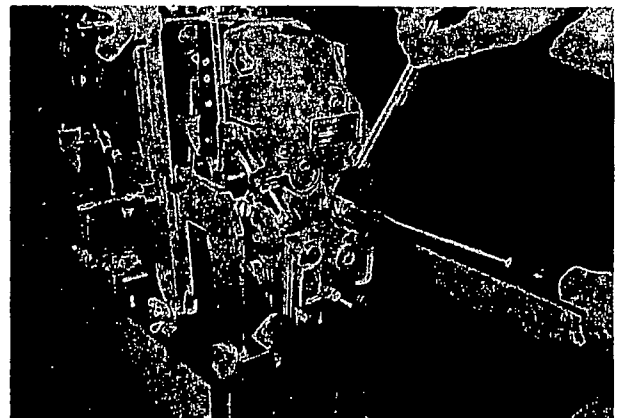

Fig. 4-67 Adjustment of idling speed control
- (2) Drive the pump at  $N_6$  rpm. Move the adjusting lever in idling position so that the rod travel becomes  $R_6$  mm.
- (3) Check the rod travel  $R_7$  mm at  $N_7$  rpm. Then set the stop adjusting screw to contact the adjusting lever, and tighten the lock nut (Fig. 4-67).